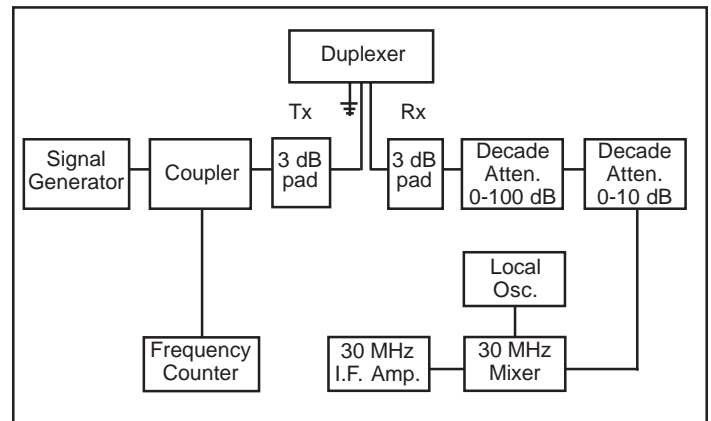

Figure 2b: Laboratory Tuning Equipment
1. Connect the equipment as shown in Figure 2b.